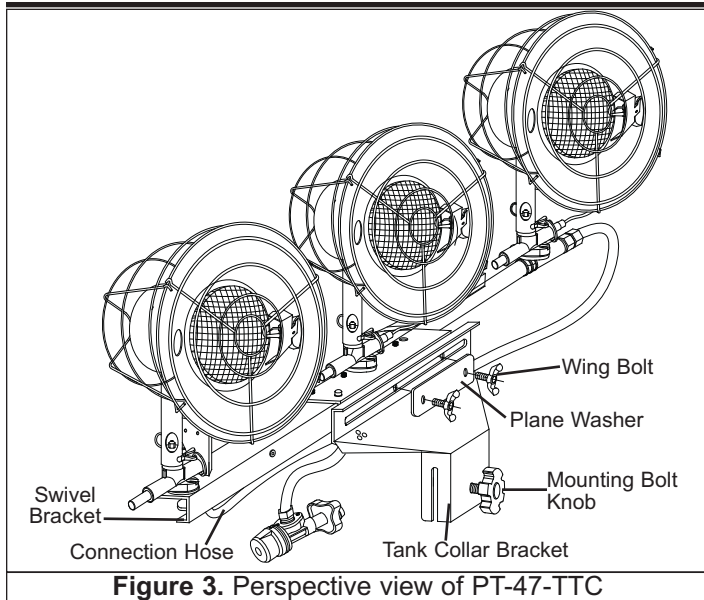

Figure 3. Perspective view of PT-47-TTC
3. Place the Plain Washer on the Tank Collar Bracket and then, insert the support bolt (see Figure 3 on Page 4).